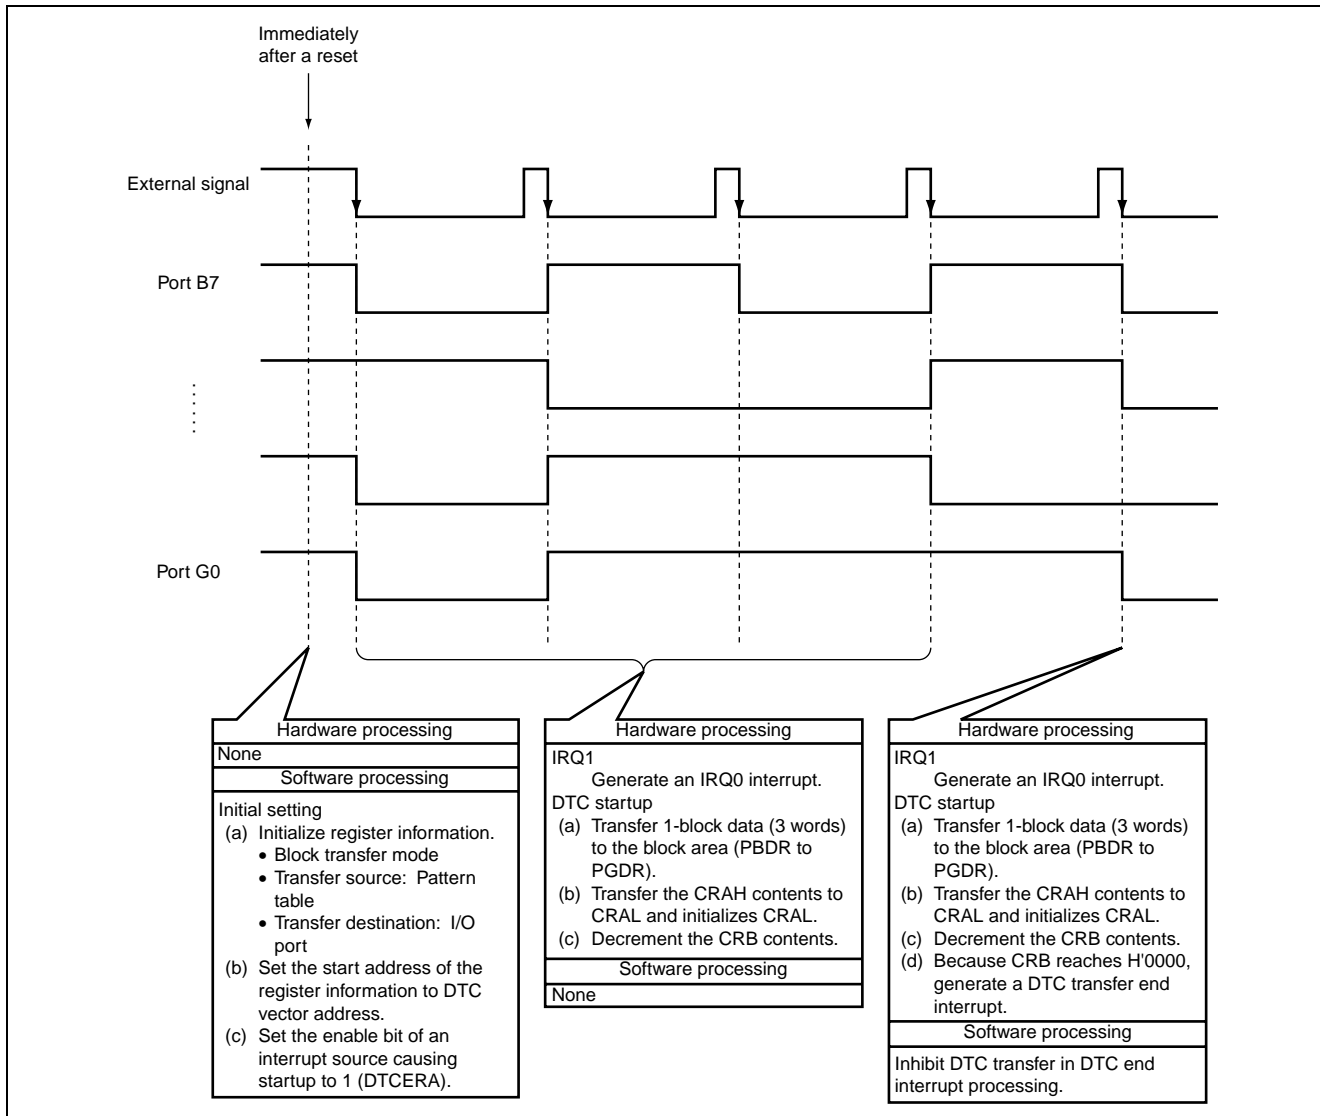

Figure 4 Principles of Operations Used for Block Transfer
- The principles of operations used of block transfer by DTC are shown in figure 4. This sample task performs hardware and software processing using the timing shown in figure 4 to transfer blocks.